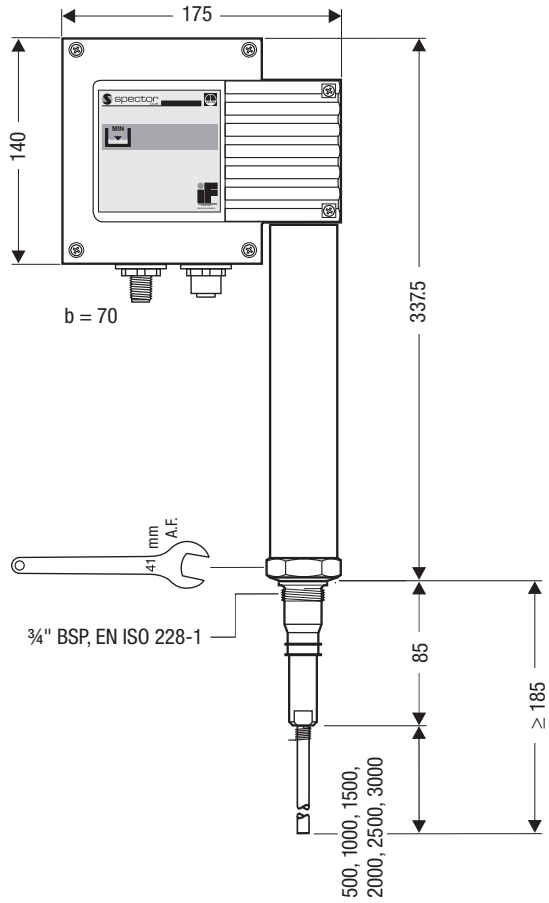
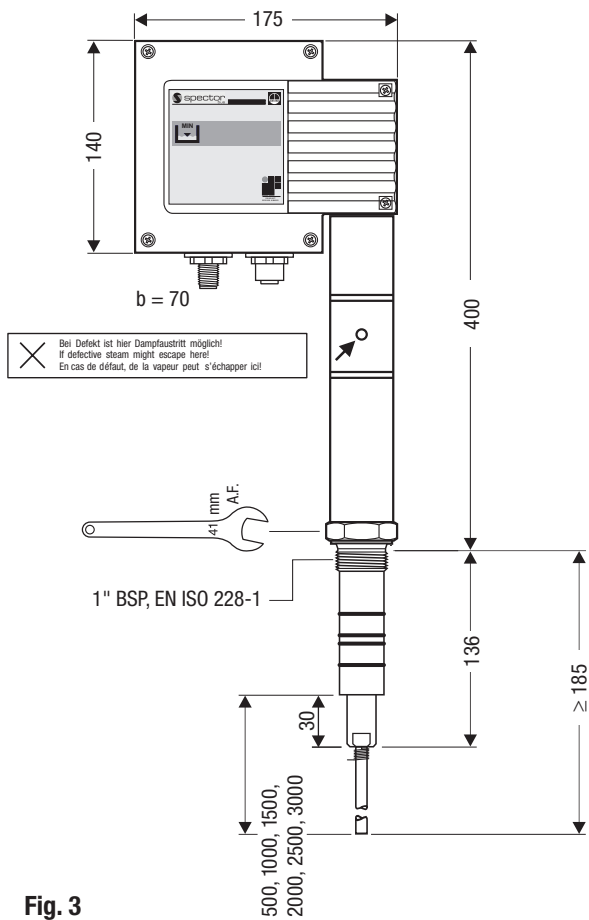

Fig. 2
Fig. 3
Screwed $\frac{3}{4}$ " , EN ISO 228-1. **Fig. 2**
Screwed 1" , EN ISO 228-1. **Fig. 3**
2. Carefully determine required measuring length of electrode. Observe min. length, **Fig. 2, Fig. 3**.